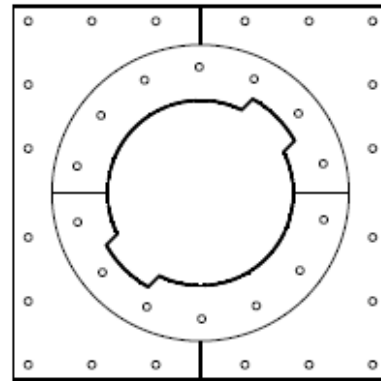

Figure 7. Support Plate, Part No. SP
- C. VERTICAL SUPPORTS (Support Plate) – Reference Figure 7. Where the Pre-Fabricated Grease Duct (Item 1) penetrates a fire-rated floor/ceiling assembly as specified in Item 4, use the supplied Support Plate, Part No. SP, at the joint directly under the floor/ceiling assembly. When the Support Plate is mechanically secured to building structural members, the allowable unsupported height of the Pre-Fabricated Grease Duct (Item 1) assembly is listed below: